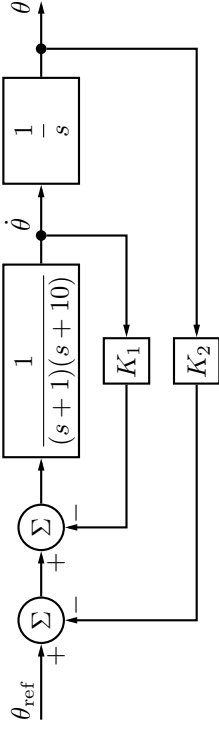

Figure 3.9a
- The block diagram in Figure 3.9a shows a cascade controlled DC-motor where  $K_1 > 0$  and  $K_2 > 0$ .